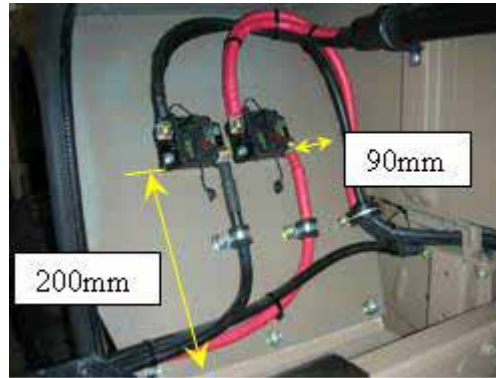

Figure 28 Mounting the Isolation Circuit Breakers in the Driver's Side Battery Enclosure
- (1) Using a HI-AMP 150-amp circuit breaker (Table 1, Item 54) as a template, mark out and drill four 6 mm holes to mount the two isolation circuit breakers inside the driver's side battery enclosure as per the dimensions in figure 28 on the upper half of the right-hand rear guard arch. Use four M6 x 25 mm bolts (Table 1, Item 56), four flat mudguard washers M6 x 22 mm (NSN 66-128-4934) and four M6 nyloc nuts (Table 1, Item 57) to secure the breakers in position.